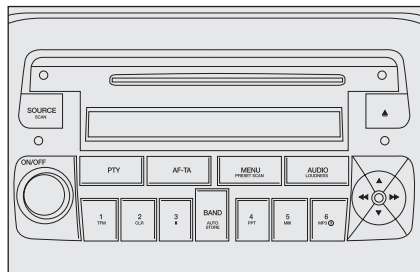

fig. 3
- ☐ with sound system **fig. 3**.